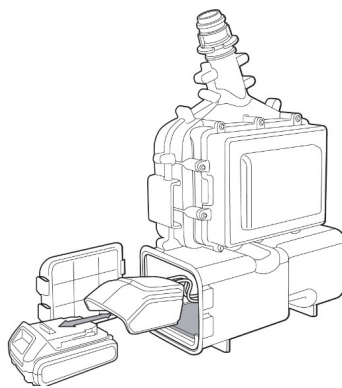

Fig. 3b – Battery Installation
5. Connect battery to battery adapter (Fig. 3b). Ensure connection is secure.